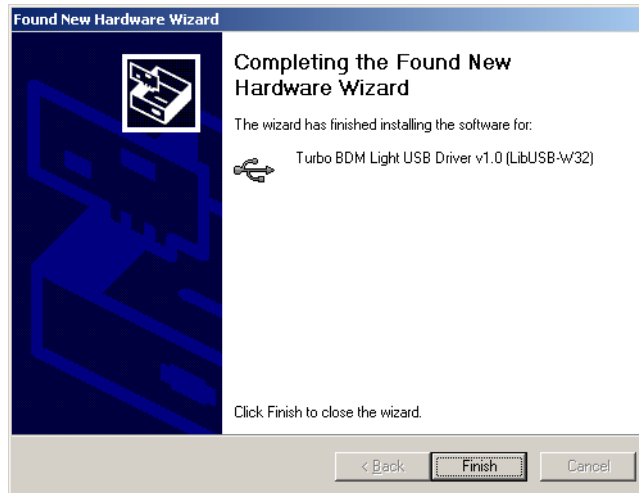

FIGURE 8. Finishing the installation
- Once the installation procedure is finished the device will be ready to use (see figure 8). Restart of Windows should not be needed.